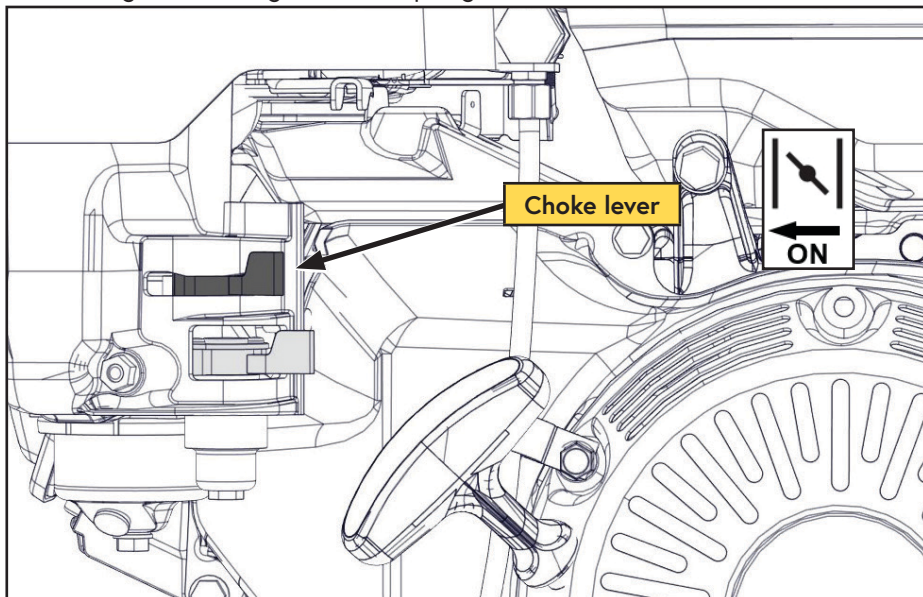

Figure 22 — Choke
8) Once the engine is running, gradually open the choke by moving the choke lever to the right as the engine warms up (Figure 22).